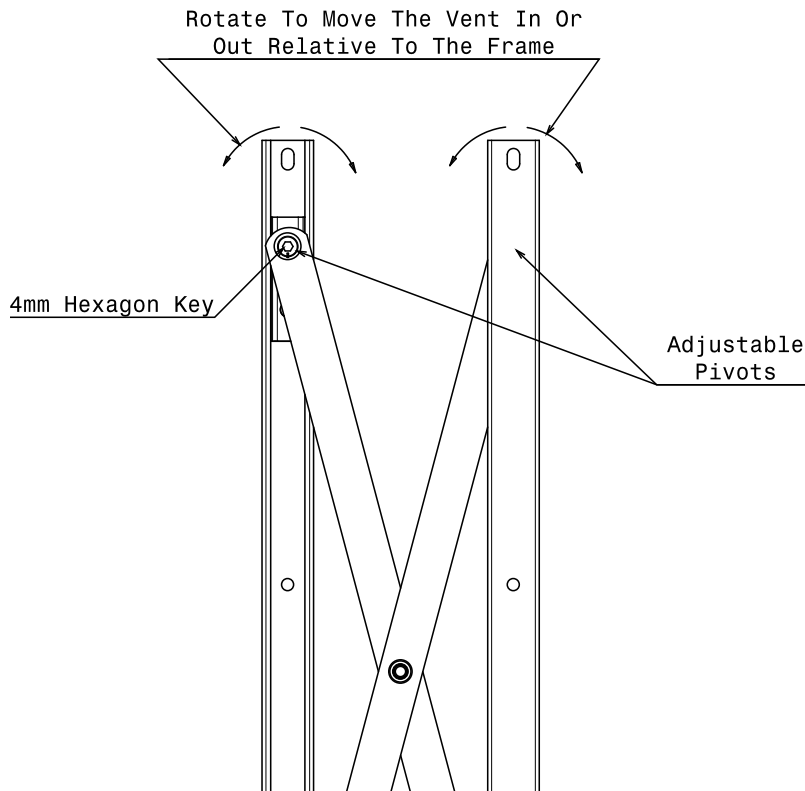

Fig. 4
9.1.14 All Parallel Plus hinges feature adjustable pivots at the top and bottom of each track (see Fig. 4) which can be used to help maintain parallelism between the vent and frame. Adjustment is achieved as follows: